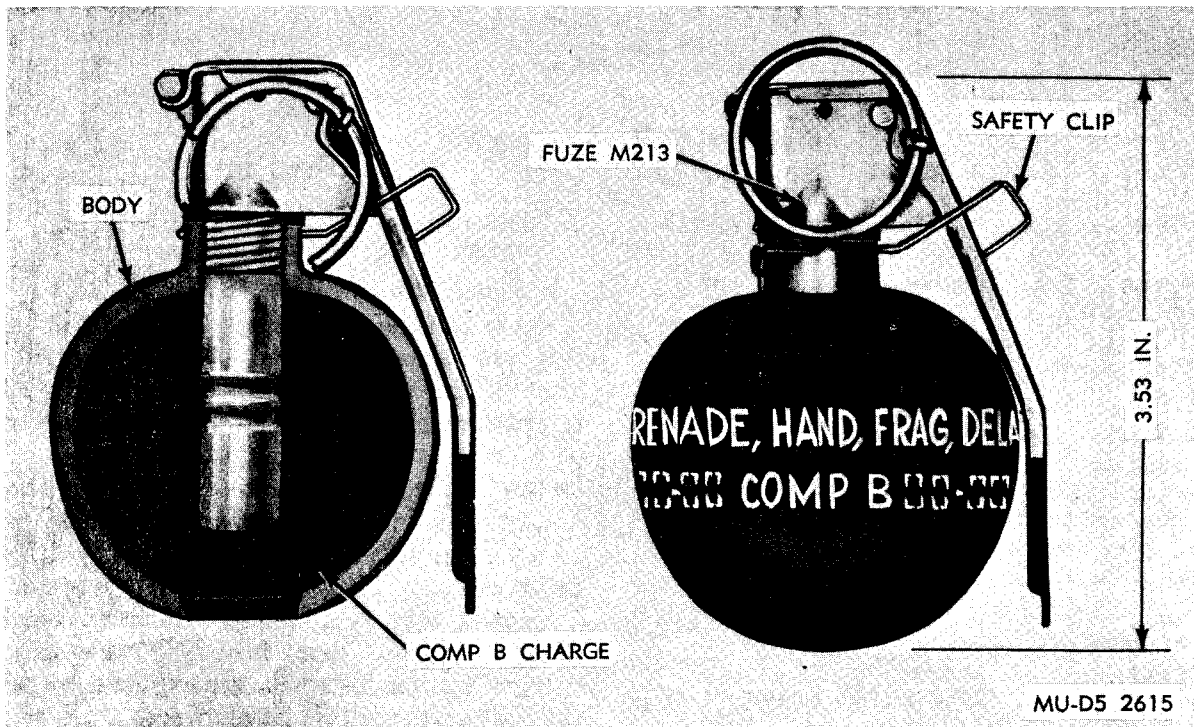

Figure 2-4. Fragmentation hand grenade M67.
a. General. Hand Grenade M67 (fig. 2-4) is Hand Grenade M33 with a safety clip. Each grenade is assembled with a fuze that initiates the explosive charge. These grenades detonate at the expiration of 4 to 5 seconds after release of the safety lever.